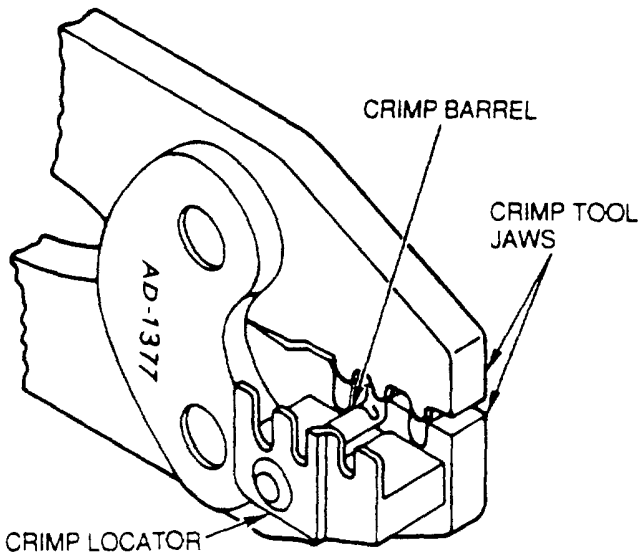

Figure 65. Inserting Crimp Barrel in Crimp Tool, MS22520/37
72. **Use.** The tool is used to crimp removable contacts with a wire barrel size of 12 thru 20. The crimp is the standard 8 impression which affords maximum tensile strength. The 8 impression indent crimp is illustrated (Figure 65).